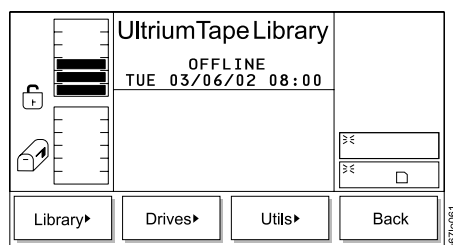

Figure 241. Setup Menu
2. Press the button below the **Setup** softkey. The Setup Menu displays (see Figure 241).